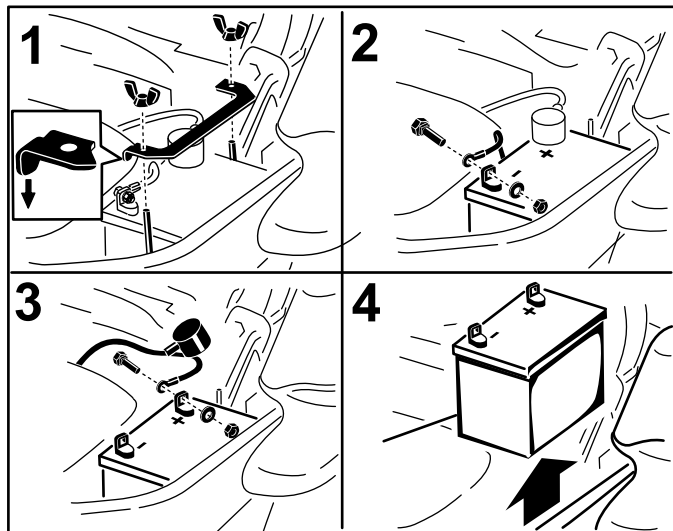

Figure 58
3. First disconnect the negative battery cable (black) from the negative (-)(black) battery terminal (Figure 58).
4. Slide the red terminal boot off the positive (red) battery terminal and remove the positive (+)(red) battery cable (Figure 58).
5. Remove the wing nut securing the battery clamp (Figure 58).
6. Remove the clamp (Figure 58).
1. Position battery in the tray with the terminal posts opposite from the hydraulic tank (Figure 58).
4. Secure the cables with 2 bolts, 2 washers, and 2 locknuts (Figure 58).
6. Install the clamp and secure it with the wing nut (Figure 58).